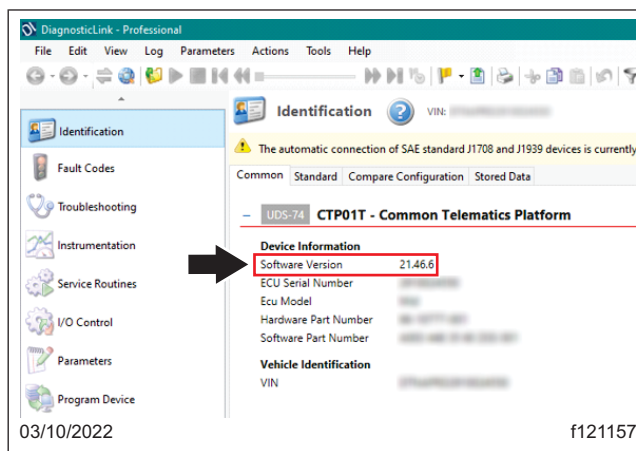

Fig. 33, Verifying CTP Software Version
14. Once the CTP01T connection turns green and online in the 'Connections' window, go to 'Identification,' 'Common,' and verify 'Software Version' is '21.46.6' under 'Device Information.' See Fig. 33.